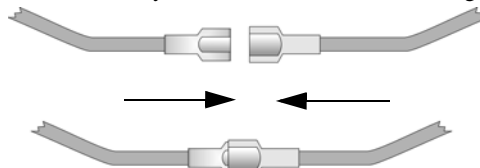

Figure 1.2 Splicing Control panel Battery Cables
2. Connect the main control panel battery cables to the battery cable extenders as shown in Figure 1.2.